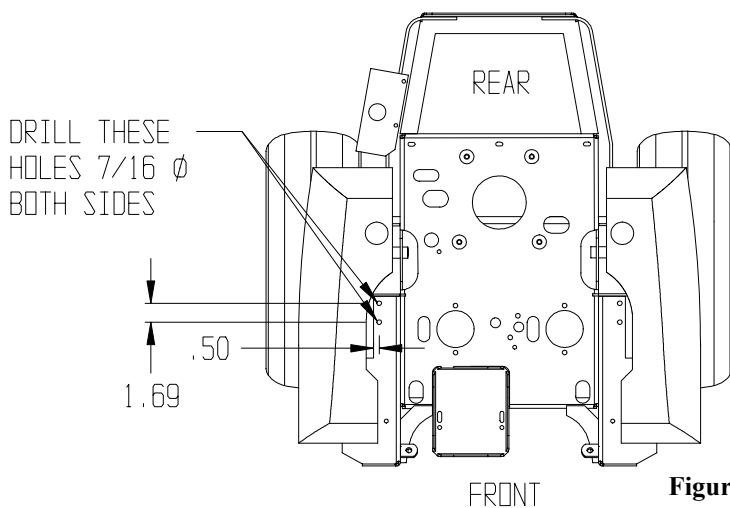

Figure 3
9. Layout the hole location for the seat belt bracket as shown in Figure 3 and the diagram. Drill two $7/16''$ holes through the mower frame member under the seat. **Use caution so as not to damage the hydraulic system or electrical system.** Repeat procedure on the opposite side.